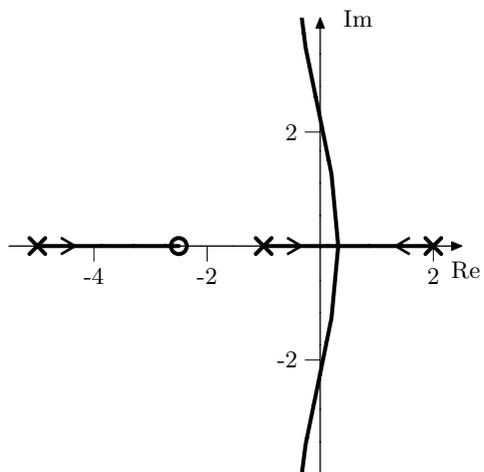
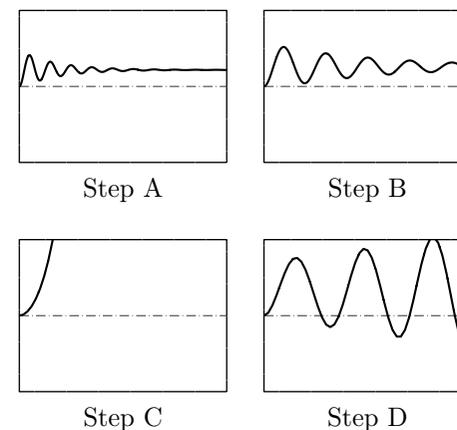

Figure 3.11a. Starting points are marked  $\times$  and end points  $\circ$ .
Figure 3.11b. All comparable axes have equal scaling.
3.11 Figure 3.11a shows the root locus for the characteristic equation of a P-controlled process  $G$  with respect to the gain  $K$ . In Figure 3.11b four step responses for the closed loop system with different values of  $K$  are shown.
Match the plots in Figure 3.11b with the  $K$ -values below. Justify your answer.